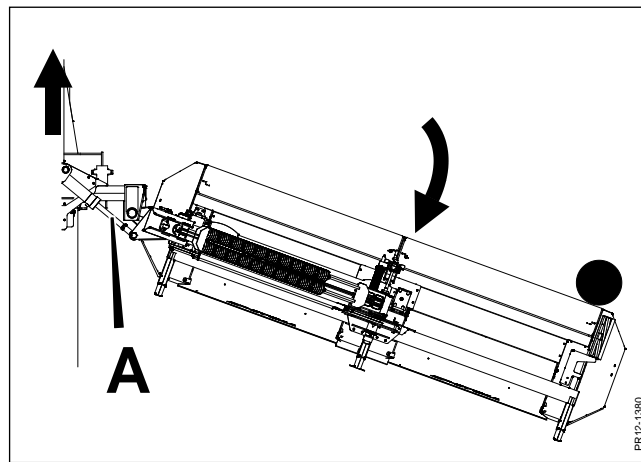

Fig. 3-13
**Fig. 3-13** Although the cutting units are suspended in a frame according to JF-STOLL's TopSafe principle there is also a hydraulic safety system which allows the cutting unit to move backwards in case of collision. If this happens you must activate the cylinder for conversion between work and transport **A** in order to get the cutting unit back into the right position. **Do not reverse with the machine.**